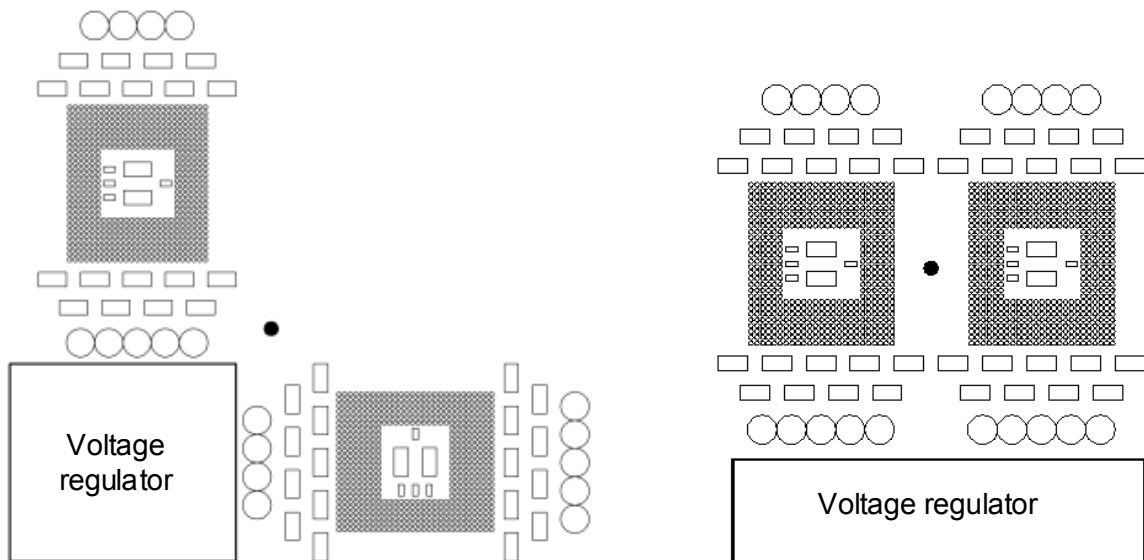

Figure 13 – Dual-Processor VRD Layout Examples
- ♦ All high-frequency capacitors should be located as close as possible to the socket. All components associated with the controller should be mounted as close as possible to the controller with minimal trace lengths. Figure 13 shows examples of two configurations of a VR and the two processors it supplies.